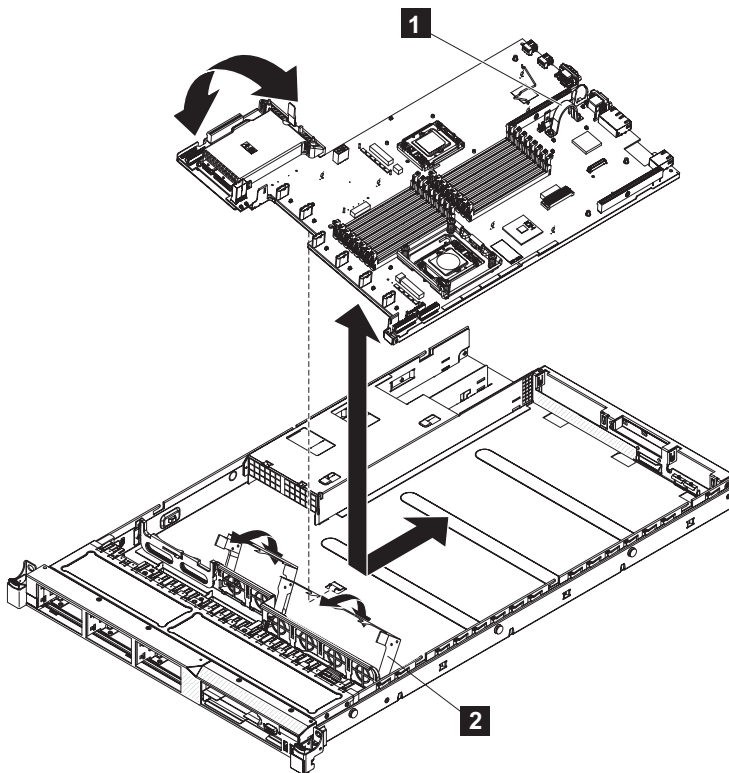

Figure 272. Removing and replacing the SAN Volume Controller 2145-CG8 or 2145-CF8 system board
18. Grasp the system board handle (**1** in Figure 272) and slide the system board away from the back of the node. Lift the side of the system board that is nearer to the power supply units slightly so that it disengages from the locator pin; then, slide the system board slightly toward the left of the node, as shown in Figure 272.